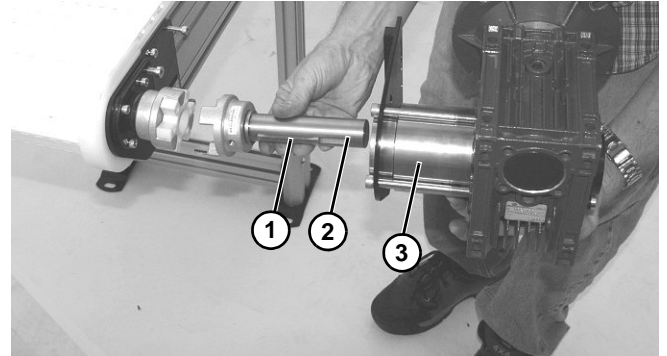

Figure 7
3. Remove gear reducer output shaft assembly (**Figure 7, item 1**), and key (**Figure 7, item 2**) from coupler housing (**Figure 7, item 3**).